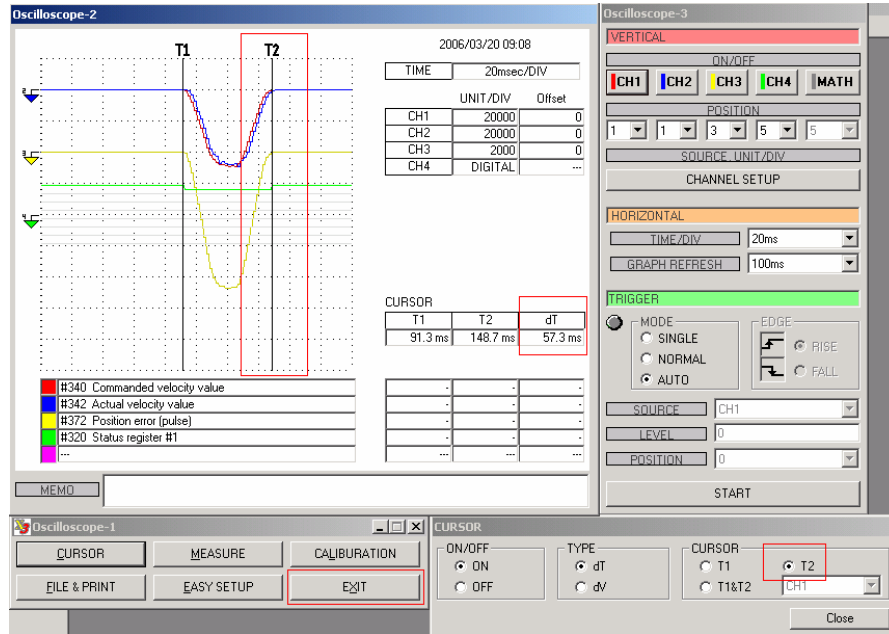

Figure 36: T2 line in position
30. Figure 36 also represent the duration measured. If the duration met the user's expectation, "Exit" the oscilloscope else start the oscilloscope and return to terminal window and start fine tuning again.